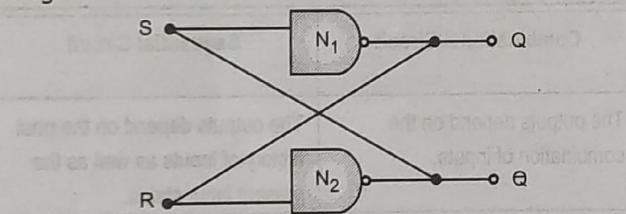

Fig. 3.3 : One bit memory cell
- A one bit memory cell using NAND gates is as shown in Fig. 3.3.